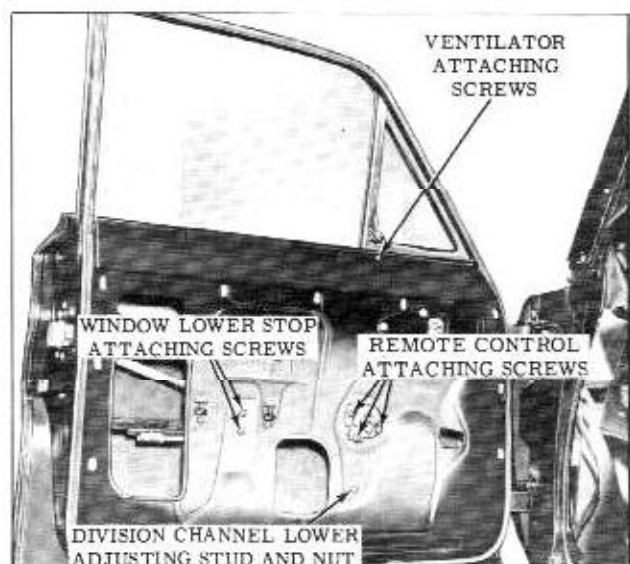

Fig. 15-18 Front Door Ventilator and Remote Control Attachment
1. To adjust the lower portion of the ventilator division channel in or out or fore or aft, lower door window and loosen ventilator division channel adjusting stud nut. (Fig. 15-18) Turn adjusting stud in or out or position lower end of channel fore or aft as required; then tighten stud nut.